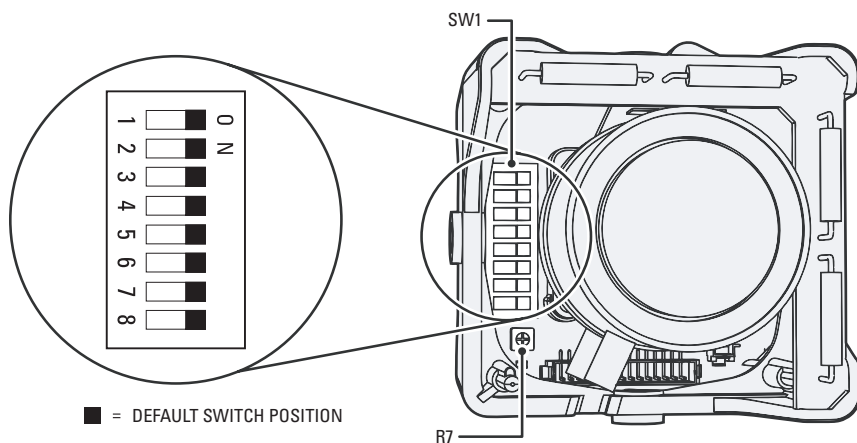

Figure 11. Adjusting the IS310-DW/CW Series Camclosure
Refer to Figure 11 to adjust the IS310-DW or IS310-CW model.
2. Select the camera to synchronize. Use the phase adjustment control (R7) to synchronize the camera to the reference camera (refer to Figure 11 on page 13). Turn R7 clockwise to increase vertical phase; turn R7 counterclockwise to decrease vertical phase.